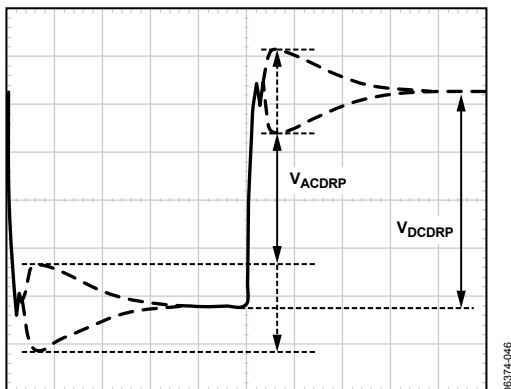

Figure 41. AC Load Line Waveform
5. The resulting waveform will be similar to that shown in Figure 41. Use the horizontal cursors to measure V_{ACDRP} and V_{DCDRP} , as shown in Figure 41. Do not measure the undershoot or overshoot that occurs immediately after the step.